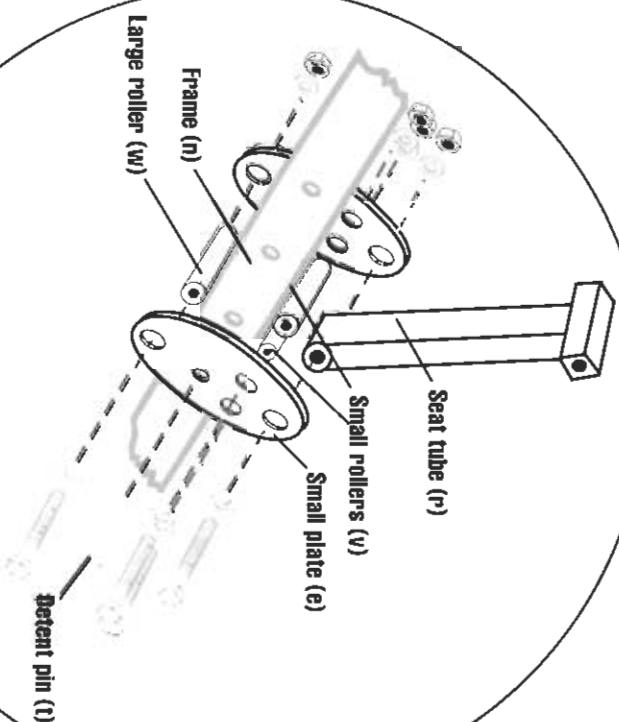

Figure 1
- u. Backrest Support Bars (2)
- v. Small Roller (2)*
- x. Spring Clips (2) (Secures weight plates)
- y. Safety Hooks (2) (Secures weight bar)
* Refer to Figure 1.
Refer to Figure 1 for this step.